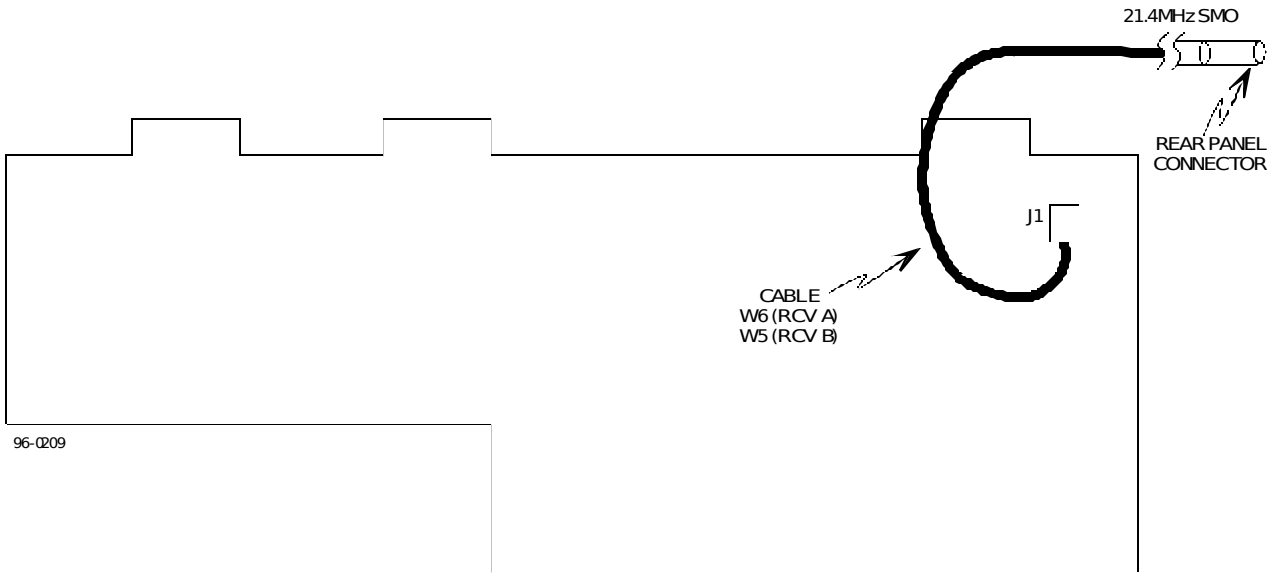

Figure K-7. Type 797325-1 PC Assembly (A10) (Component Side)
6. Disconnect cable W6 (RCV A) or cable W5 (RCV B), which leads to the J6 or J5 SMO output, from A6AJ2 or A6BJ2. Connect this cable to A10J1. See **Figure K-7**.